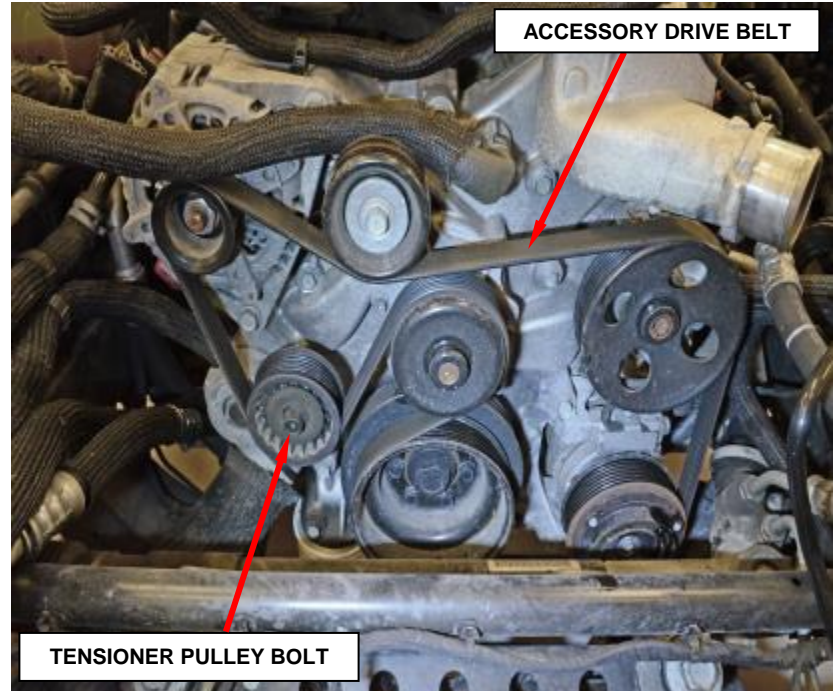

Figure 19 – Accessory Drive Belt
- a. Release the belt tension by rotating the accessory drive belt tensioner counterclockwise with a 15 mm wrench on the tensioner pulley bolt. Rotate belt tensioner until belt can be removed from pulleys (Figure 19).